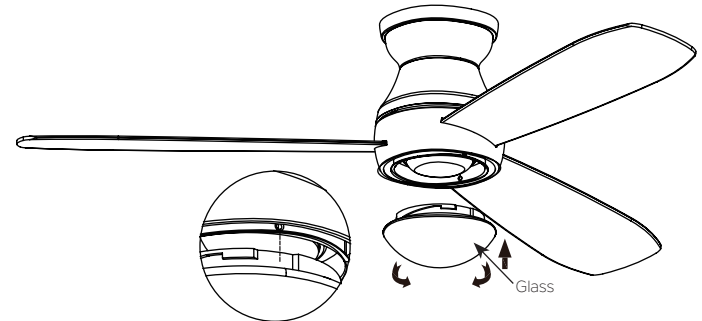

Fig. 16
Step 3. Secure the glass to light kit assembly and twist clockwise. Do not over-tighten.(Fig. 16)